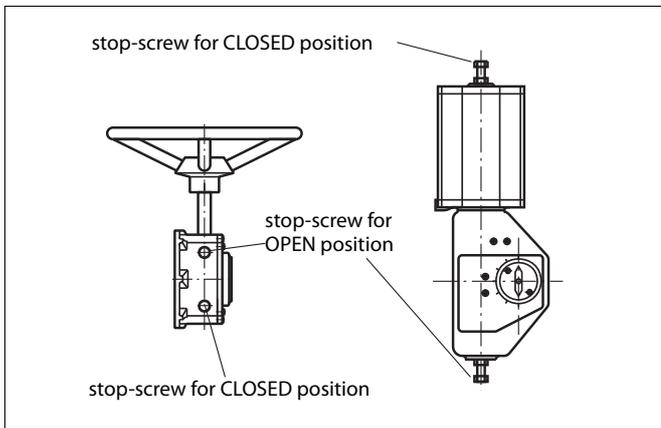

Fig. 30 Open and closed positions of the actuator
- ❑ Adjust the circular movement of the ball with the hexagon screws located at the side of the housing (see Fig. 30). The stop-screw for the open position is nearest to the handwheel on the side of the housing and the screw for the closed position is at the opposite end. The turning directions for the handwheel are marked on the wheel.
- ❑ Adjust the ball open and closed positions by means of the actuator stop screws located at both ends (see Fig. 30).